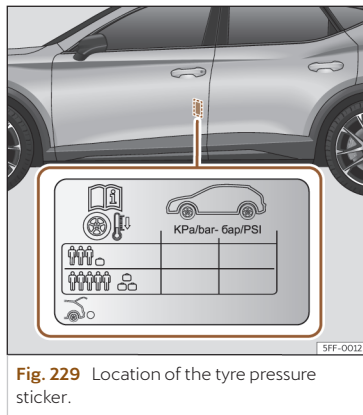

Fig. 229 Location of the tyre pressure sticker.
- Adjust tyre pressure to the load being carried by the vehicle >>> **Fig. 229**.
The values of the tyre pressure are shown on the sticker label located on the rear frame of the front left door >>> **Fig. 229**.
The tyre pressure must be adjusted according to the load the vehicle is carrying. If the vehicle is going to be fully loaded, increase the tyre pressure to the maximum load value shown on the sticker label >>> **Fig. 229**.
In the case of a minimised temporary spare wheel (125/70 R16 or 125/70 R18) inflate to a pressure of 4.2 bar as indicated on the tyre pressure label >>> **Fig. 229**.
- The driver is responsible for ensuring that all of the vehicle tyres are correctly inflated to the right pressure. The recommended tyre pressure is indicated on the label >>> **Fig. 229**.
- Tyre pressure should be that indicated on the label when the tyres are cold at all times >>> **Fig. 229**.